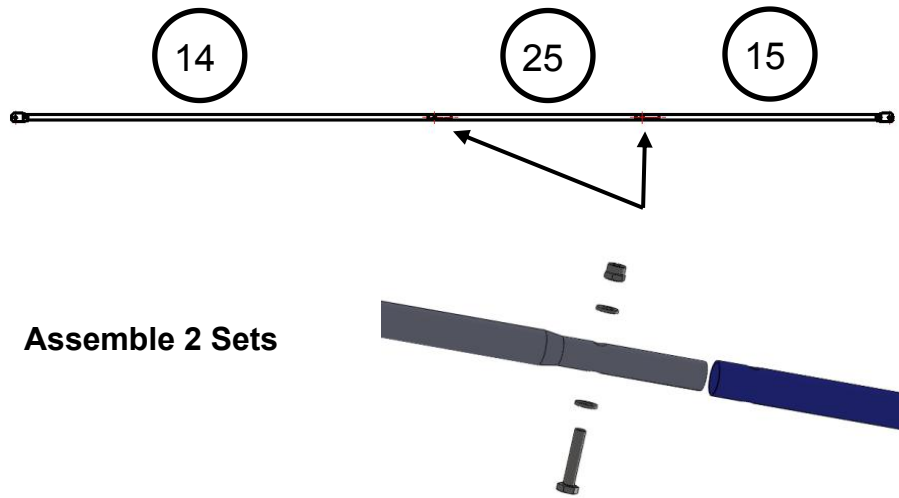

Figure 23
Locate two Male Cross Braces (#14), two #1 Connection Bars (#25) and two Female Cross Braces (#15). Bolt a single Male Section (#14) to a single #1 Connection Bar (#25) to a single Female Section (#15) using two (2) M6x30 Bolts, four (4) Steel Washers and two (2) Locknuts as shown in Figure 23. Repeat for second set.